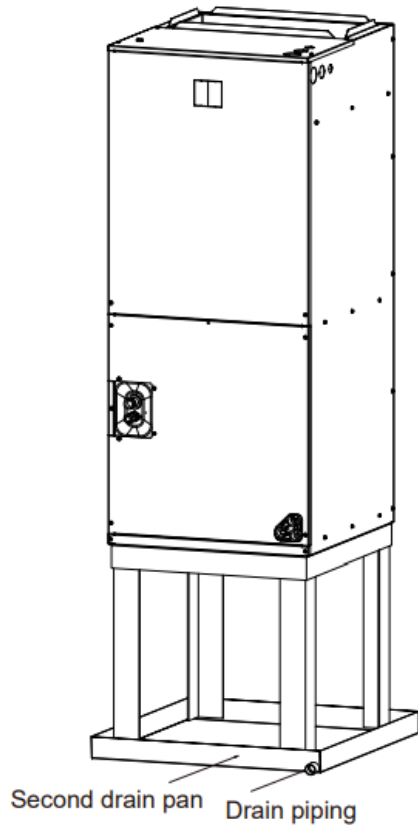
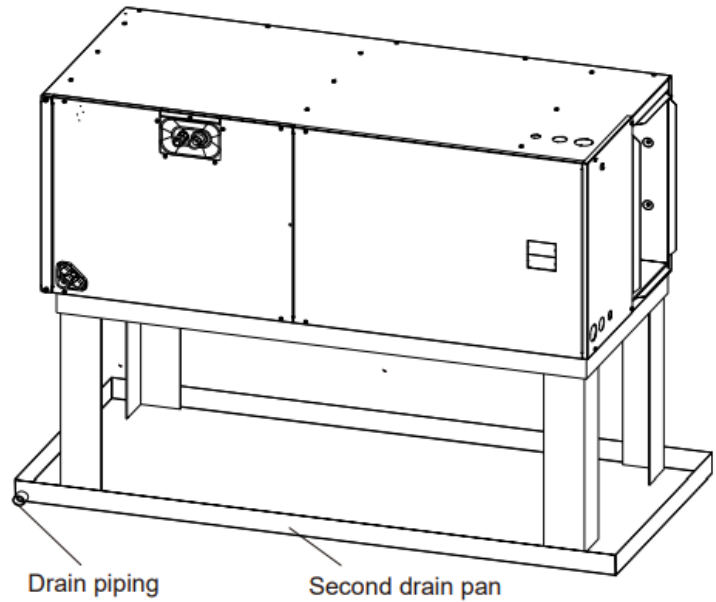

Fig.2-3 INSTALLED VERTICALLY
Fig.2-4 INSTALLED HORIZONTALLY
- Condensation may form on the product during cool operation. It is also recommended to use the second drain pan and secure the unit firmly to prevent it from falling. See Fig.2-3 and Fig.2-4 .